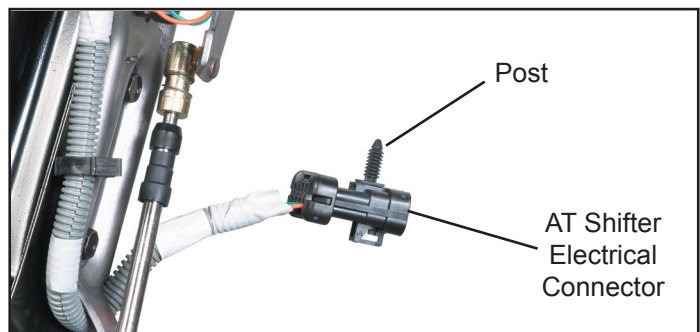

Figure 4 - AT Shifter Electrical Connector
3. Disconnect the AT shifter electrical connector from the dash harness as shown in Figure 4. Loosen the post on the connector from its mounting position.